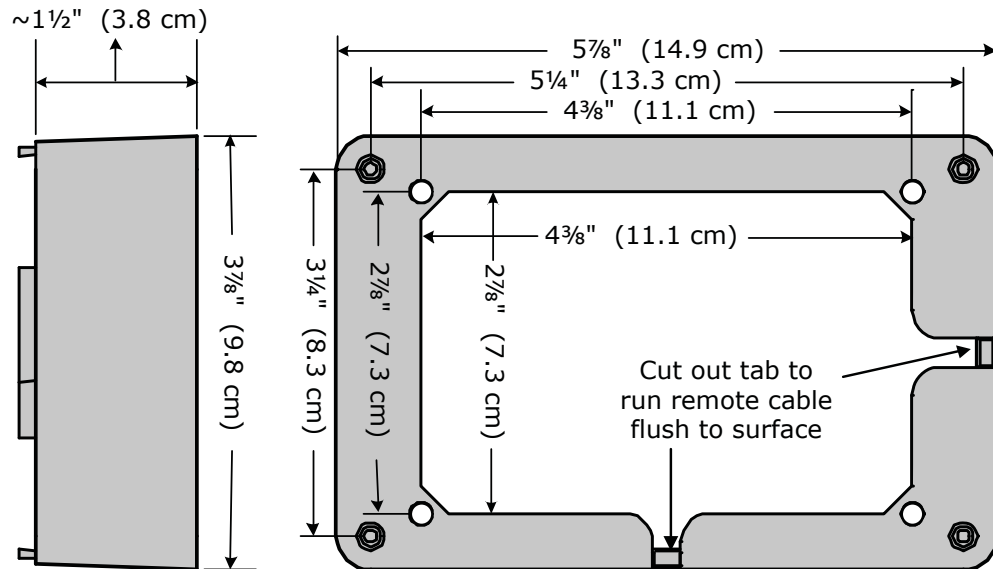
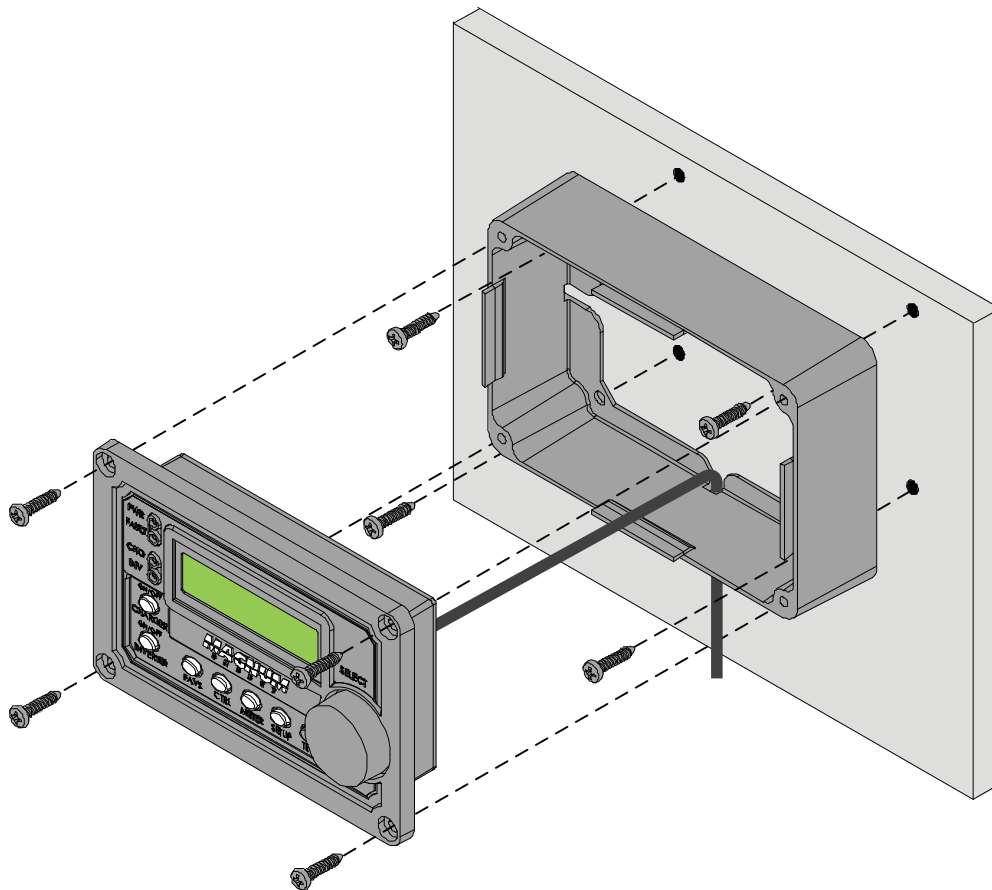

Figure 2-4, Remote Bezel Dimensions
Figure 2-6, Surface Mounting the ME-ARC using the Bezel
To surface mount, you must use the supplied bezel (Figure 2-4).
Info: The bezel has tabs at the bottom and side that are made with thinner material (Figure 2-4). They can be cut or broken out to allow the cable to be routed downward or to the side (Figure 2-6).
4. Position the bezel over the drilled mounting holes, and then screw the bezel to the wall using the supplied Phillips screws (Figure 2-6).